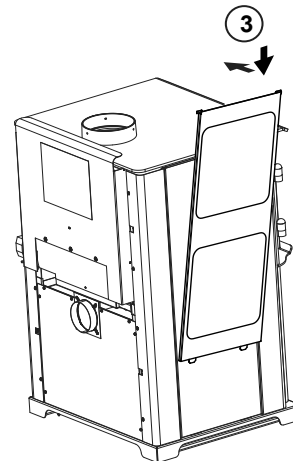

Figure 17.6
4. Reattach tile frame (**Figure 17.6**).